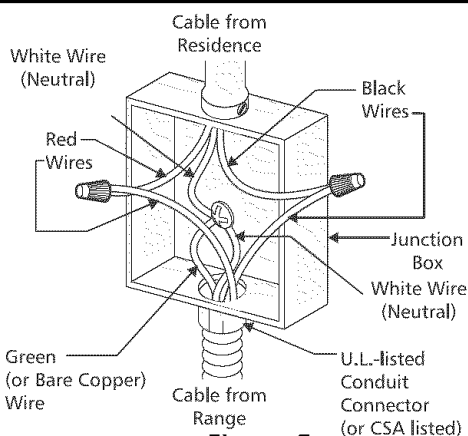

Figure 5
Where local codes permit connecting the appliance-grounding conductor to the neutral (white) wire (see Figure 5):
2. In the circuit breaker, fuse box or junction box connect the appliance and residence cable wires as shown in figure 5.